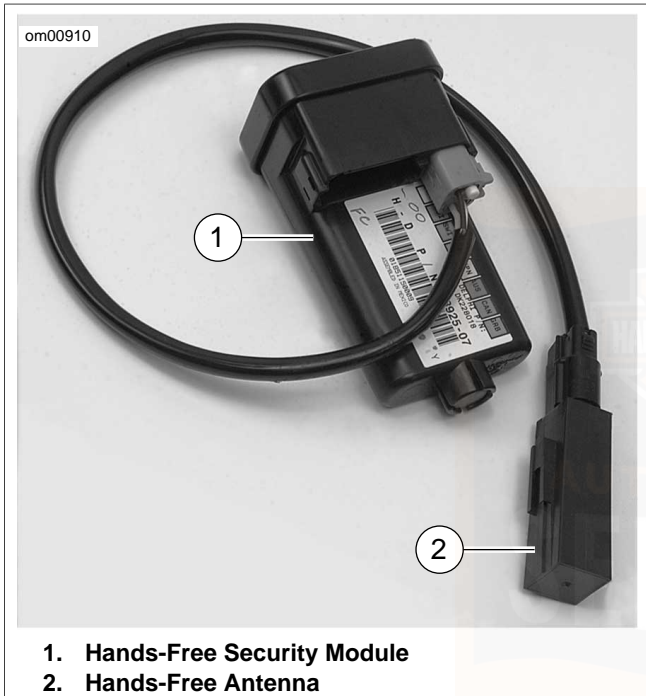

Figure 17. Security Module with Antenna (shown removed)
See Figure 17. The Harley-Davidson Smart Security System (H-DSSS) consists of a Hands-Free Security Module (HFSM) (1) and a Hands-Free Antenna (2) mounted on the motorcycle, and a Hands-Free Fob **carried** by the rider/passenger.